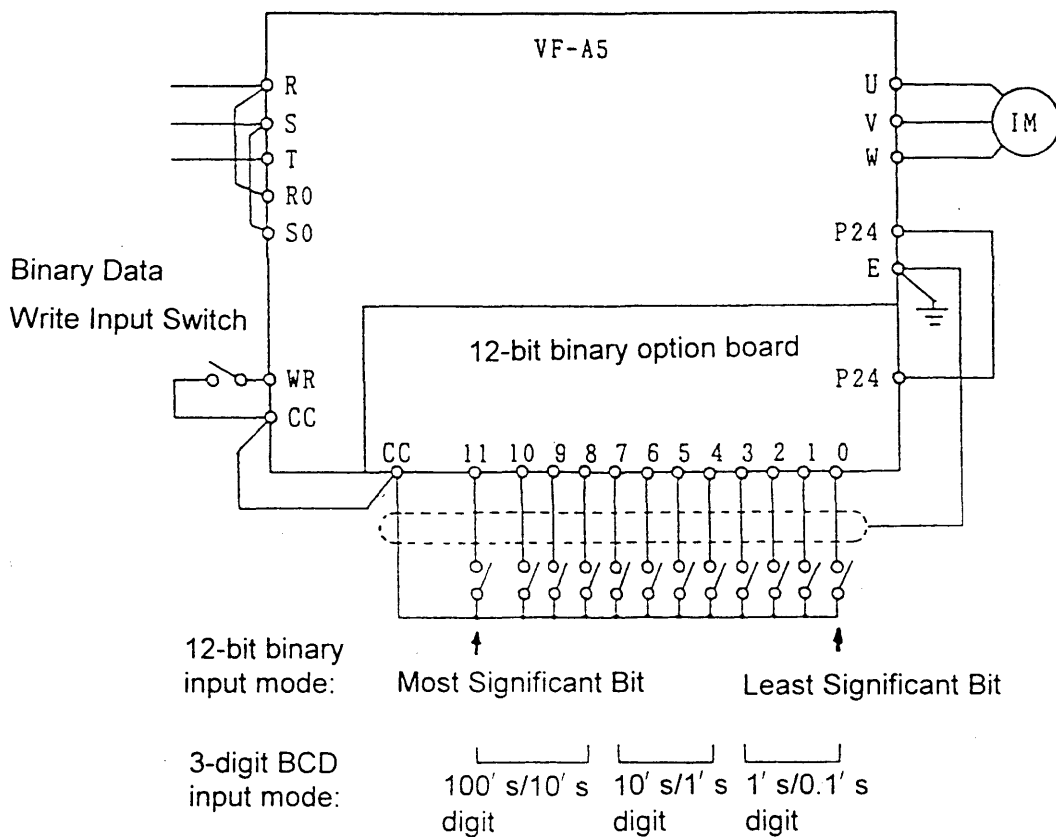
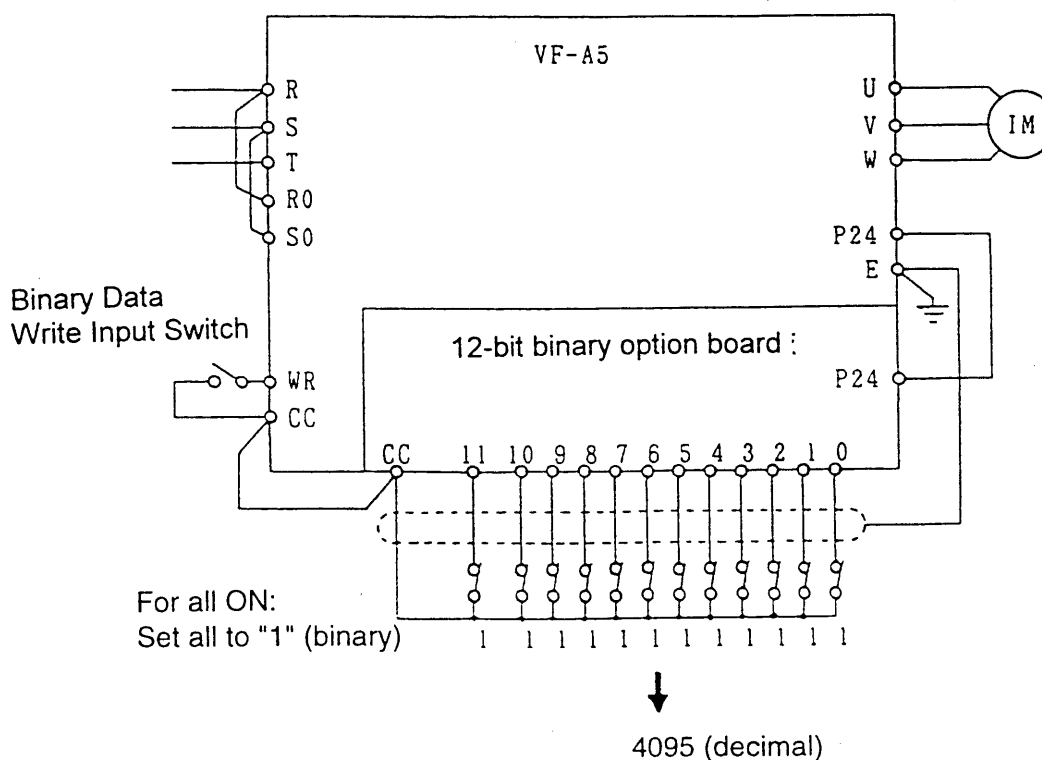

Figure 3-1-1 Connection Diagram
Figure 3-1-2 Sample Contact Input for 12-bit Binary Input
- (1) Connect the 12-bit binary input or 3-digit BCD input line between terminal bit 0 - bit 11 and CC on the binary option board (see Figure 3-1-1).
- (1) Use the contact signal to set the inverter operating frequency.
- (2) Figure 3-1-1 shows the bits and the number of digits for 12-bit binary input and 3-digit BCD input.
- (3) The contact is on when the bit is set to 1 and off when the bit is set to 0.
- (4) Figure 3-1-2 shows an example of contact input for 12-bit binary input.